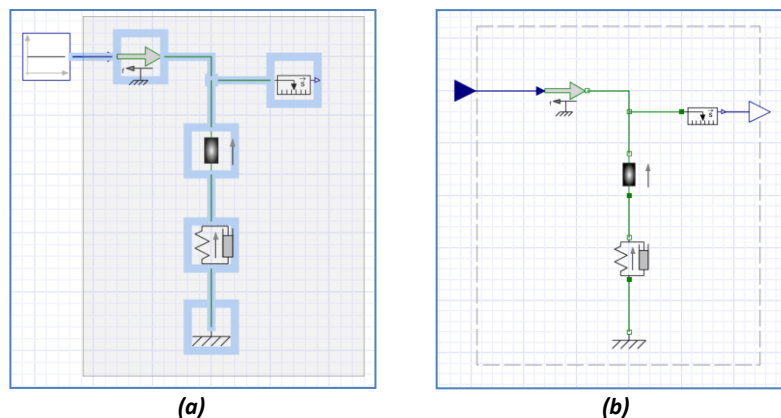

Figure 7.2. a) Creating a subsystem and b) connecting components
6. Connect the Position Sensor to the frame of the subsystem by left-clicking on the right port of the sensor and connecting it to the frame of the subsystem (Figure 7.2**b**). This will make the port accessible at the Main level.
21. Connect the model as shown in **figure 7.2** and attach the appropriate probes. For help on building your model, see Section 3.